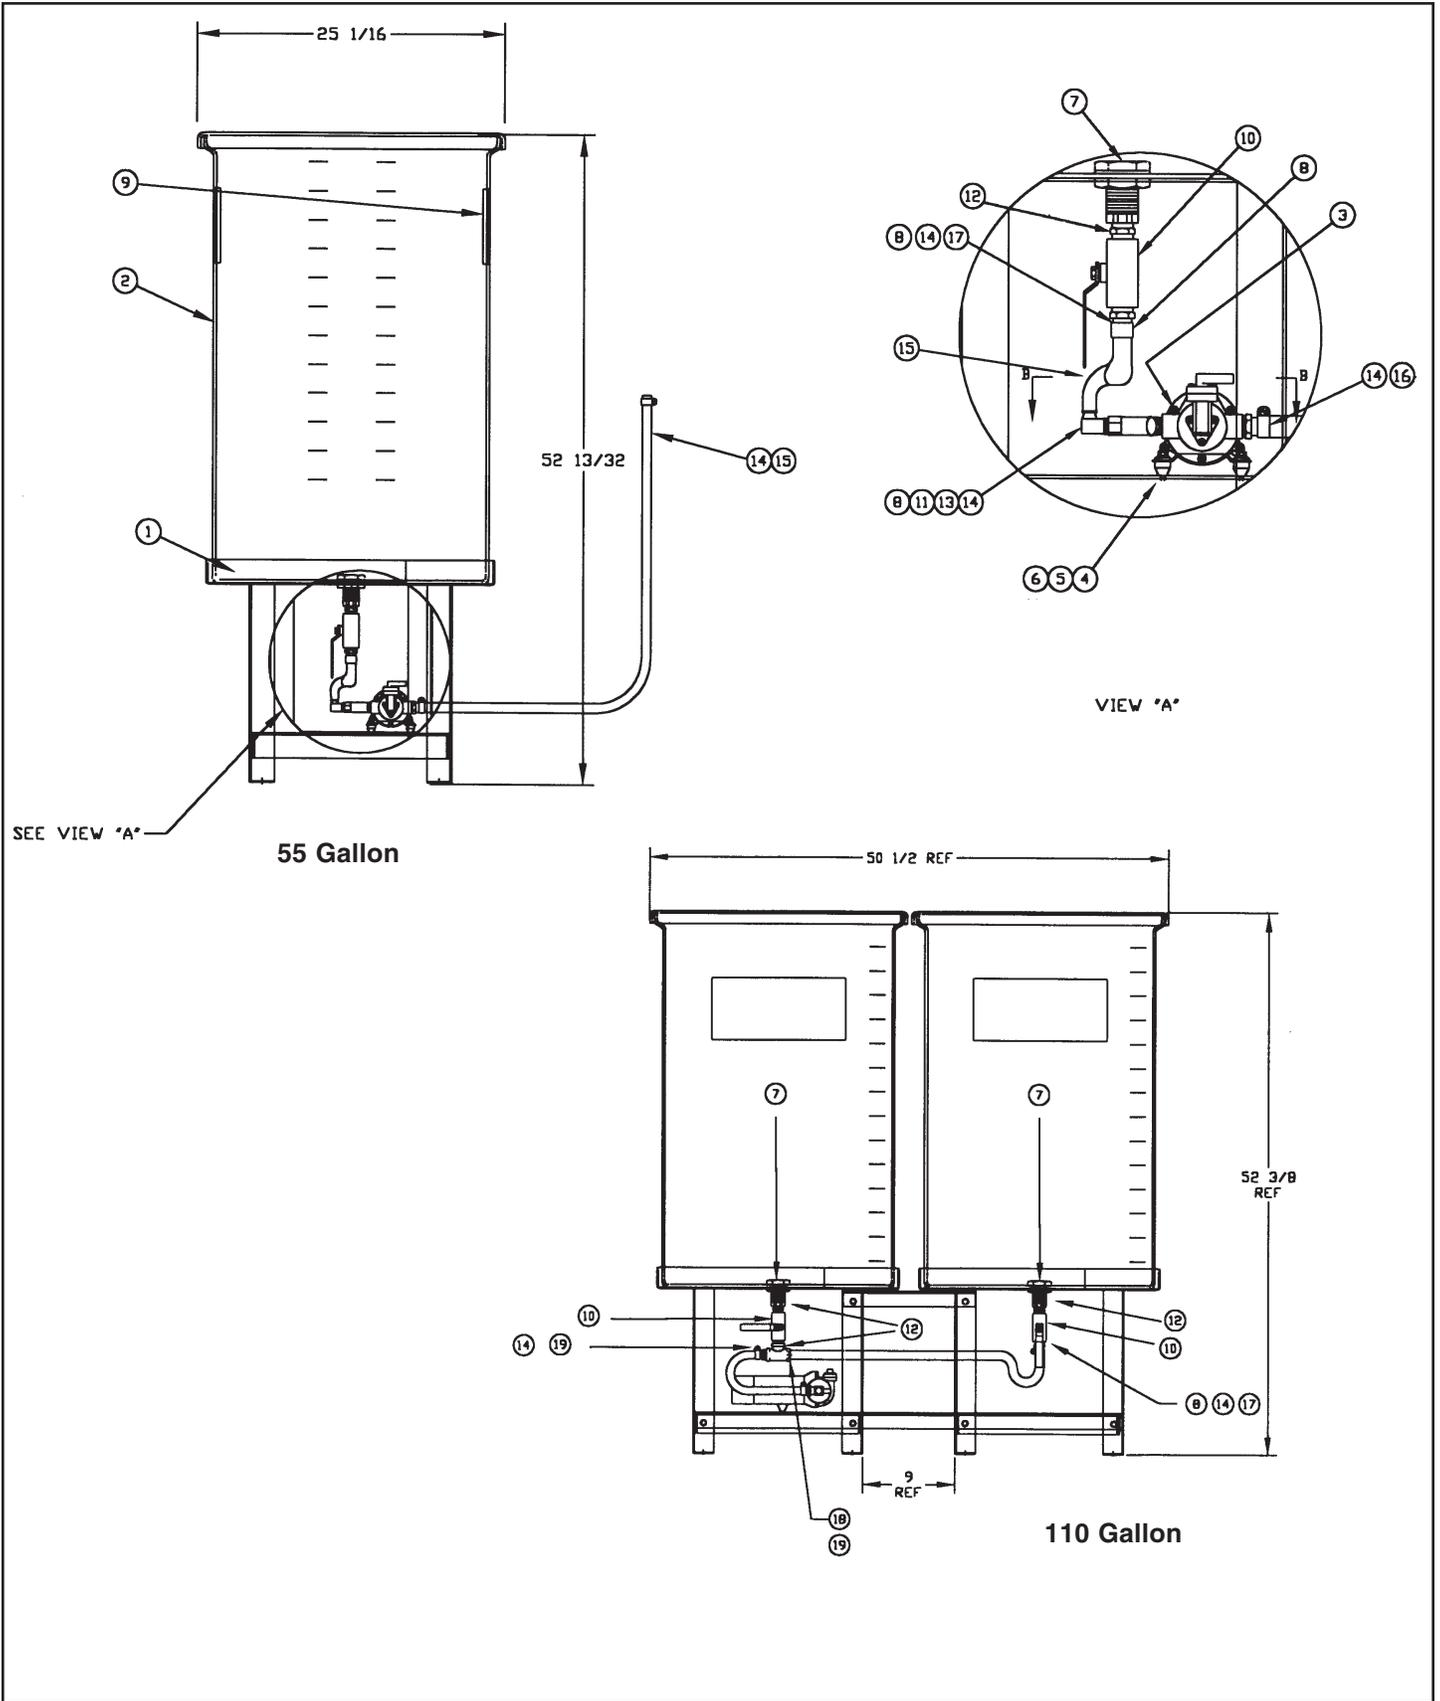

FIGURE 2
2. The detergent pump assembly ball valve is in the closed position.	2. Open ball valve, refer to Figure 2 item (10). The ball valve in Figure 2 is illustrated in the open position.
4. The detergent operating pressure is not 5 to 10 psi above the operating water pressure.	4. Adjust the detergent operating pressure pump, refer to Section 4.1 (5b). Check that detergent is visible to the PVC transparent hoses, inlet and outlet to the detergent pump. Remove screen from Y-strainer, checking for debris, refer to Figure 2 item (11).